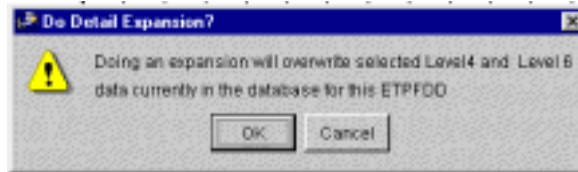

Figure 5.197 Do Detail Expansion? Window
- To expand the level 4 records to individual items at level 6 detail for the selected RLNs, click Apply to Marked RLNs. The Level 4 to Level 6 window closes, and the Do Detail Expansion? window open (Figure 5.197). Click OK to continue this operation. The level 4 records for the selected RLNs are expanded to level 6 detail, and the Do Detail Expansion? window closes.